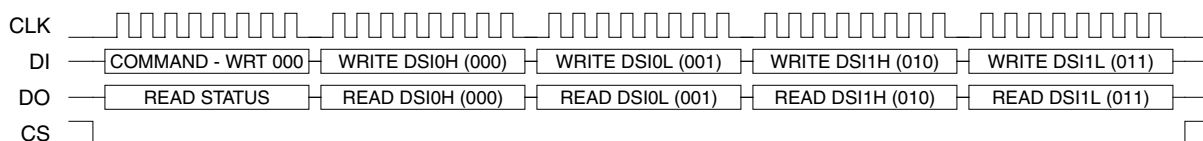

Figure 4-7. SPI Burst Transfer Example
Figure 4-7 Shows a typical burst transmission between the SPI of the host MCU and the SPI in the MC68HC55. This example assumes the DSI/D register pointer was pointing at the STATUS register (100) before the start of the burst. The first SPI transfer is the command from the host MCU (write address 000 in this case). During this first transfer, the data returned to the MCU is the data that was latched from the status register at the falling edge on $\overline{CS}$. During the next SPI transfer, the data from DSI0H (receive FIFO at pop pointer) is sent back to the MCU while new data is written to DSI0H (transmit FIFO at push pointer). Notice $\overline{CS}$ remains low throughout the whole burst sequence. As each SPI transfer completes, the DSI/D register pointer is incremented to point at the next register. At the end of this burst, the register pointer is left pointing to the status register so it is ready for the next SPI burst.